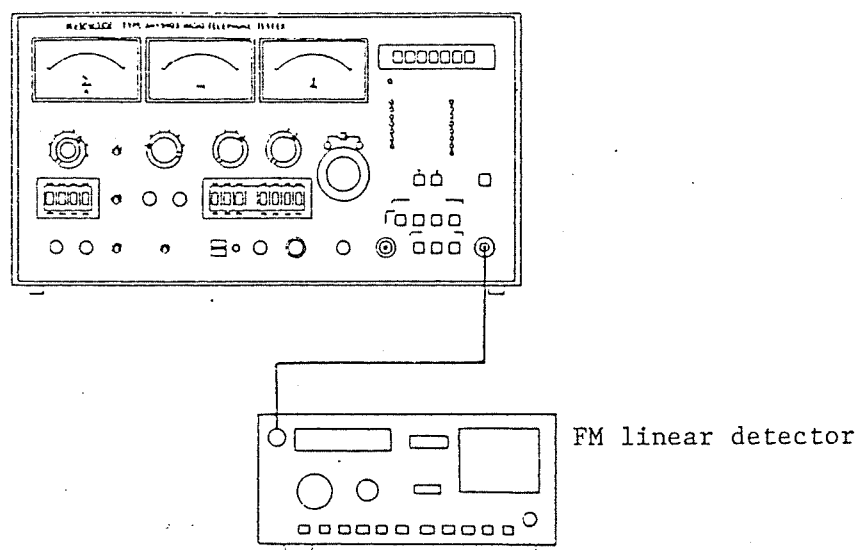

Fig. 3-6 Frequency deviation meter indication accuracy test
- (1) Connect an FM linear detector to the [RF INPUT/OUTPUT 50  $\Omega$  MAX. 25 W] connector of this apparatus as shown in Fig. 3-6.
- (2) Set the controls of this apparatus as follows: